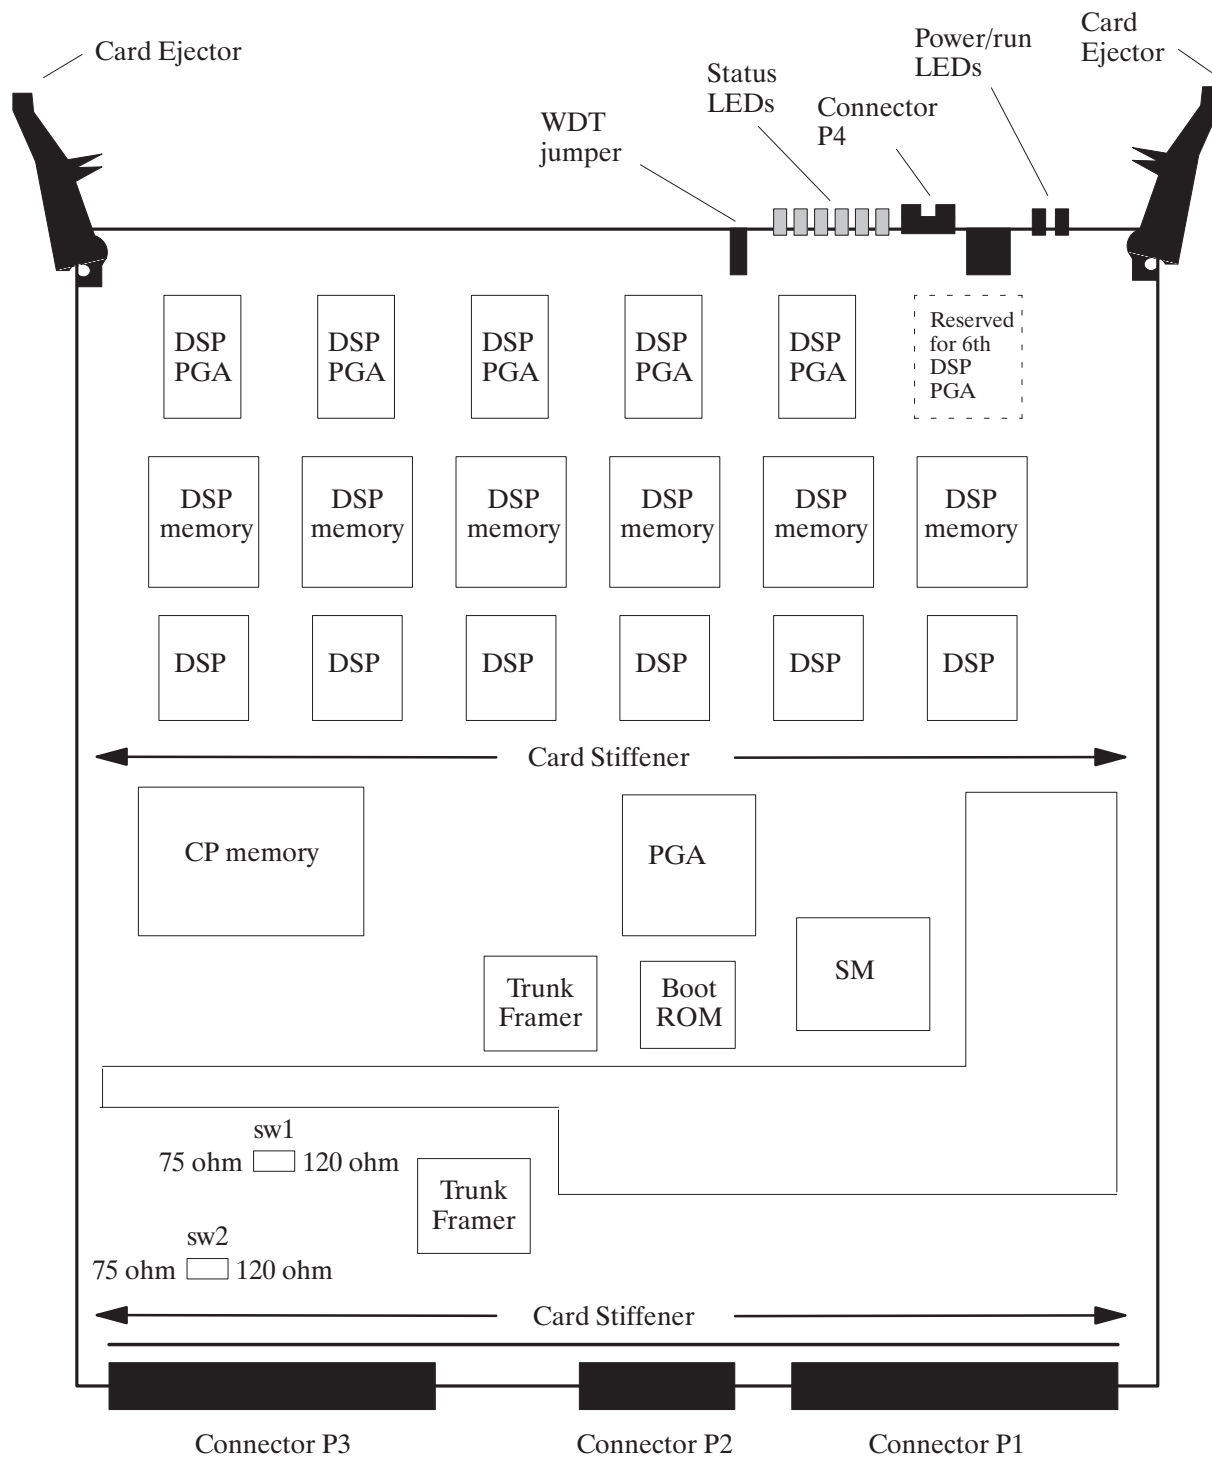

Figure 10-1 DTIC Component Layout
The DTIC consists of two major processing components: the control processor (CP) and five digital signal processors (DSPs). Refer to Figure 10-1 showing the layout of the primary components on the card.
To connect the Octel Overture 200/300 to the PBX, use two 75-ohm coax cables. Be sure that the sw1 and sw2 switches on the card are set correctly to 75 ohms and 120 ohms for Germany. Refer to Figure 10-1.